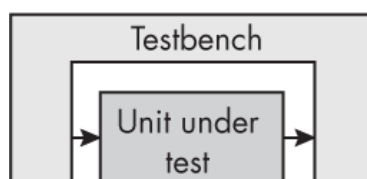

Figure 5-3: A testbench exercises a UUT so you can analyze it.
The purpose of a testbench is to exercise your UUT in a simulation environment so you can analyze it and see if it's behaving as expected. The testbench code instantiates the UUT. As you can see in Figure 5-3, the testbench provides all the required inputs to the UUT and monitors all the outputs.
First, notice that this is the first time we've seen a Verilog module or VHDL entity that has no inputs or outputs declared **❶**. This is because this testbench doesn't connect to any external signals; as you saw earlier, in Figure 5-3, the testbench itself provides the inputs.